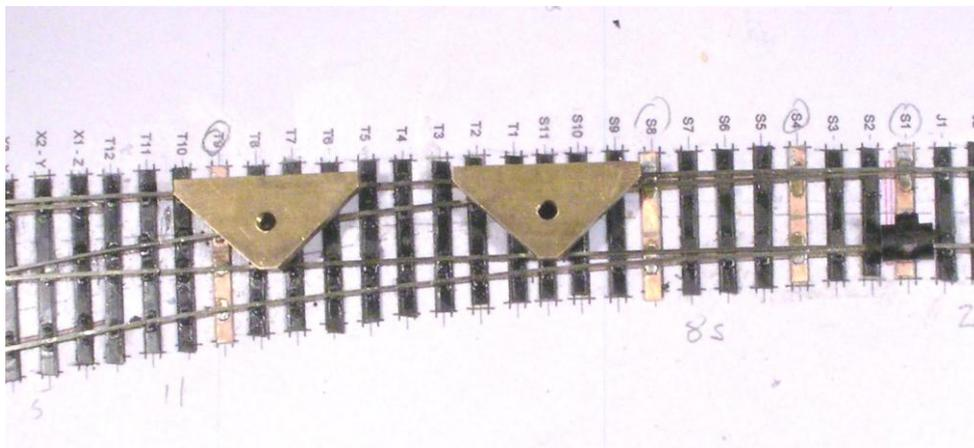

Fig 14 Gauging the straight switch from the stock rail. The rail is held in position by the bulldog clip at the toe.
18. The straight switch rail can now be fitted. It can be located by two triangular gauges or by roller gauges, fig 14. A bulldog clip helps to ensure that it stays correctly placed with respect to the joggle.